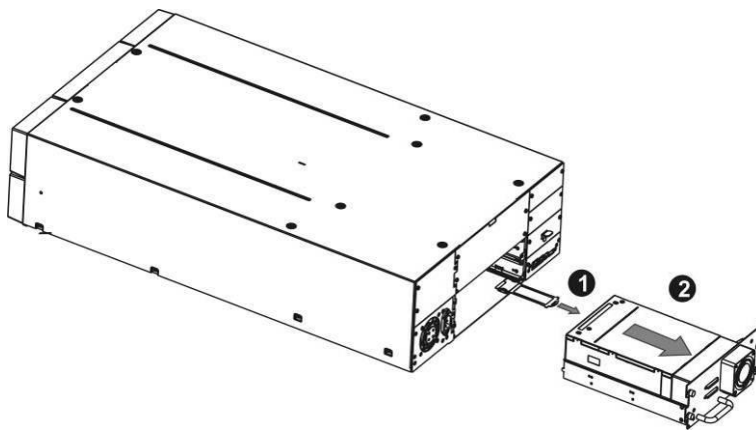

Figure 144 Remove a tape drive
4. Slightly pull out and push down the pullout tab for the product ID label so it does not interfere with the tape drive as shown in **Figure 144, Step 1**.
5. Pull the tape drive on the handle straight out of the library as shown in **Figure 144, Step 2**.